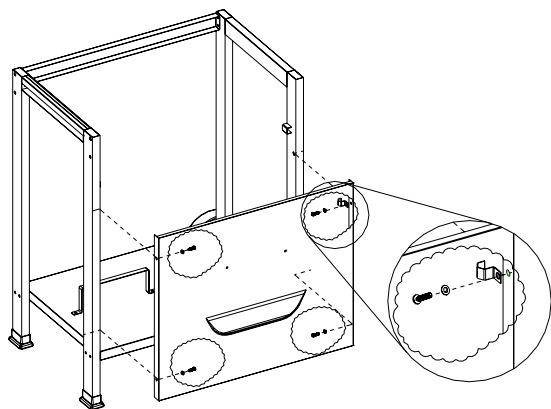

Figure 5
1. Assemble front panel to front cart leg by using (4) $\frac{1}{4}$ x $\frac{3}{5}$ " screws with (4) $\frac{1}{4}$ " lock washers. (Fig.5)